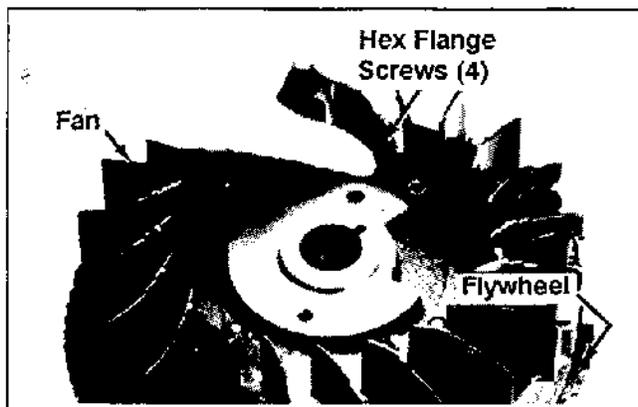

Figure 11-22. Installing Fan To Flywheel.
1. Install the fan, spacers and hex flange screws to the flywheel. See Figure 11-22.